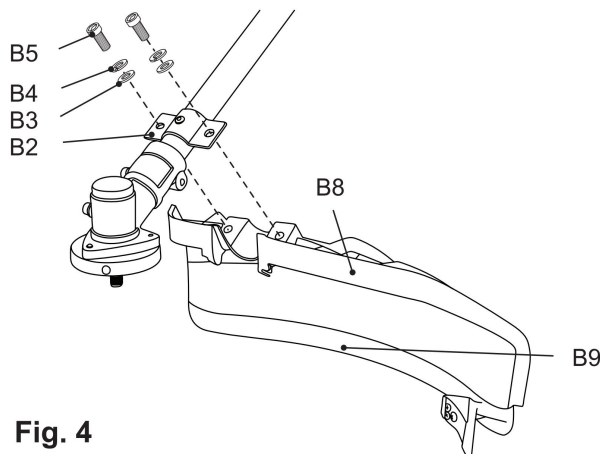

Fig. 4
3) Secure the connection with bolts (B5), spring washers (B4) and washers (B3) using the tool (E4). (Fig.4).